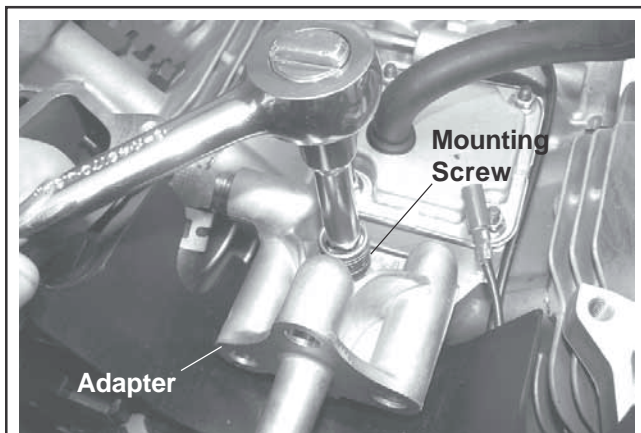

Figure 8-25. Removing Oil Filter Housing Adapter.
2. Remove the screw securing the oil filter adapter and individual O-Rings to the crankcase, then carefully separate the parts. See Figure 8-25.